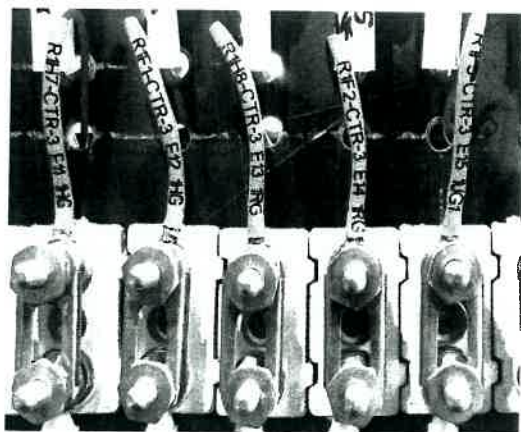

Figure-1
1. **Conductor/wire labeling:** Function identification marker (Ferrules with printed letters / PVC sleeve with printed details of the cable core / Signalling function in Black with Yellow background) to be provided on each cable conductor. (Annexure-A, Figure-1).
1. **Conductor/wire labeling** : Function identification marker (Ferrules with printed letters / PVC sleeve with printed details of the core / Signalling function in Black with Yellow background) to be provided on each cable conductor. (Annexure-A, Figure-1).